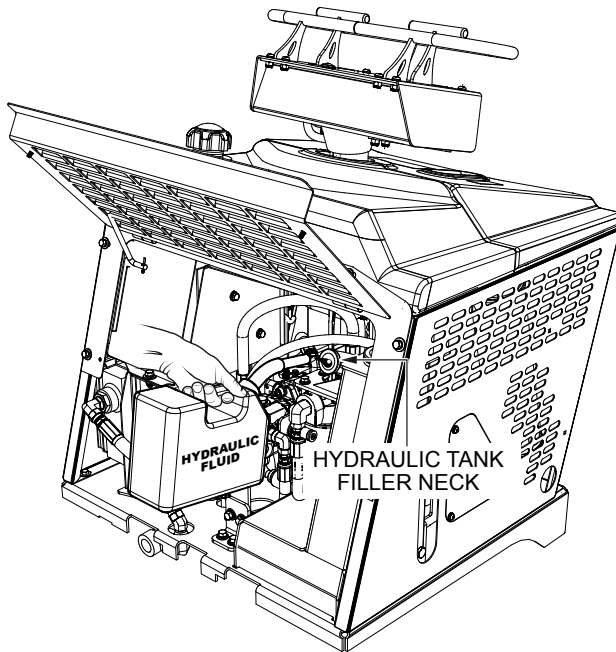

Figure 37. Adding Hydraulic Oil
8. Remove the hydraulic oil filler cap (Figure 37) and add hydraulic oil as required. Fill to the normal operating mark as indicated on the hydraulic oil sight gauge.